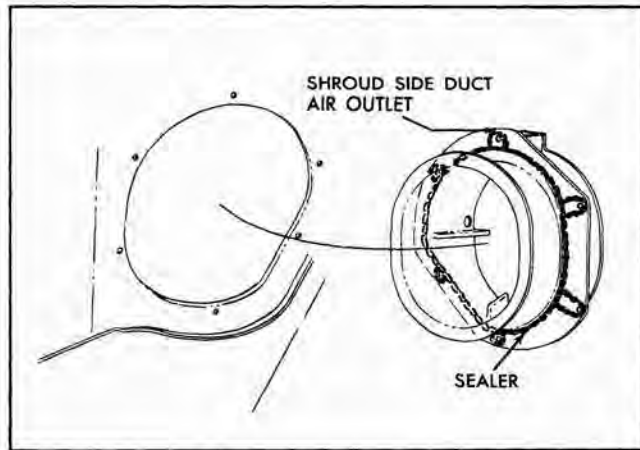

Fig. 3-5 Pontiac—Side Duct Air Outlet Sealing
3. Apply a bead of medium-bodied sealer to areas indicated in Figs. 3-5 and 3-6 and install, reversing the above procedure.